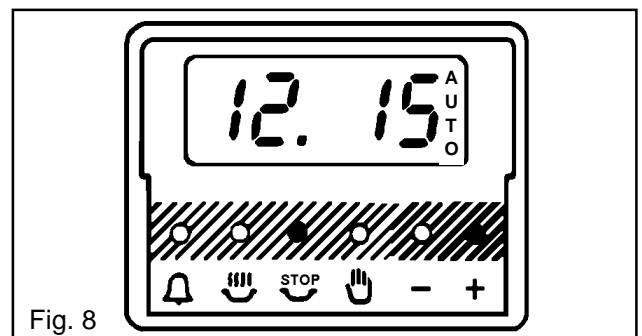

Fig. 8
- v) Set the STOP time. Press the stop time button (👉^{STOP}) press the increase control (+) until the required stop time is displayed, e.g. 12.15 p.m. as Fig. 8. If necessary depress the decrease control (-) until the correct time interval is achieved.